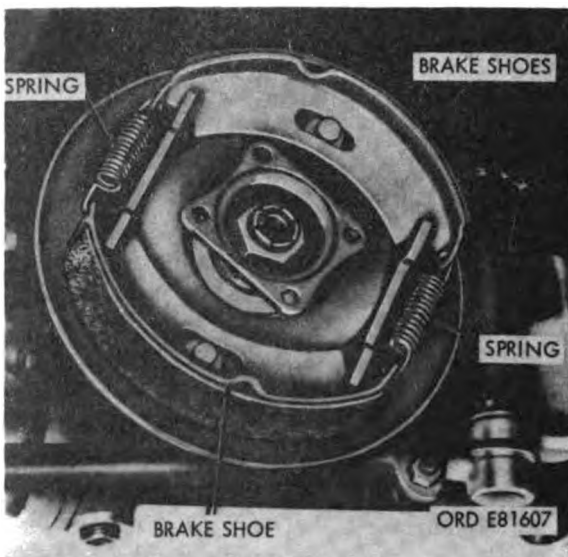

Figure 2-70. Removing or installing brakeshoes.
- (4) Remove two brakeshoe return springs (fig. 2-70).
- (5) Remove two brakeshoes (fig. 2-70). Examine and replace as required.